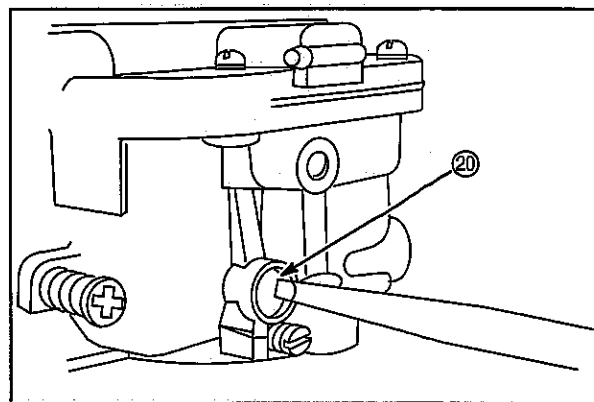

Fig. 84
14. Remove transitional hole Welch plug (20) with a punch as shown, **Fig. 84**.